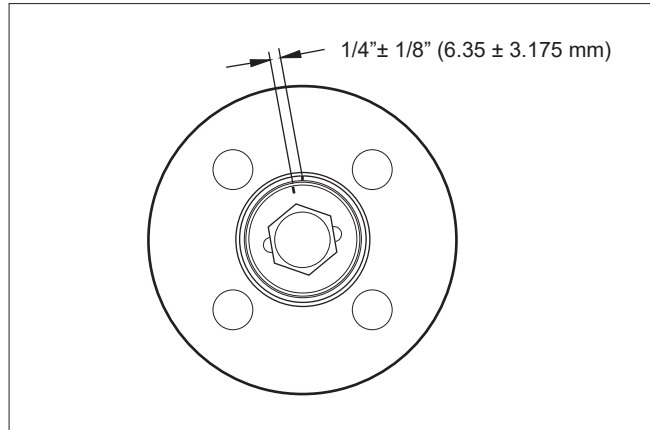

Figure 2.
2. From inside of the body cavity, insert one stem bearing (24), the secondary stem seal (7), then the second stem bearing (24) up into the lower stem counterbore.
3. From the outside of the body, insert the two stem seals (8) into the upper stem counterbore.
4. Insert the stem (4) into the body cavity (threaded end first), and press it gently up into the stem bore until resistance is felt from the lower stem bearing. Be careful not to scratch seals.
5. Holding the stem in place from inside the body, drop the compression ring (21) and stem washer (50) over the threaded end of the stem protruding out of body stem bore, then screw on the stem nut (16).
7. Screw the insert (2) into the body until it is fully seated. Mark the position as shown in (**Figure 2**). Counting the number of turns, remove the insert.
8. Insert the ball (3) rotating it onto the stem (4) in the closed position. If necessary, turn the stem blade to align with the ball slot.